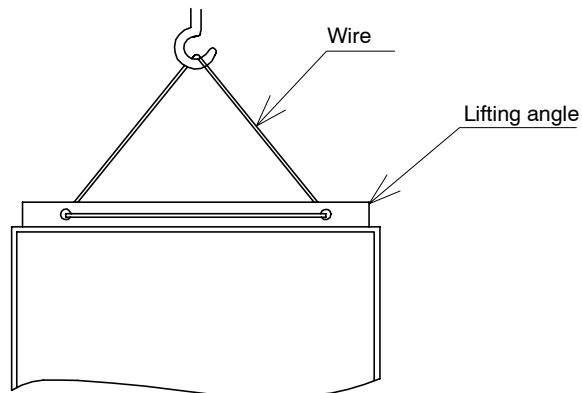

Fig 2.3 Bad Lifting Example
- Do not lift the Inverter Panel as shown in *Figure 2.3*.